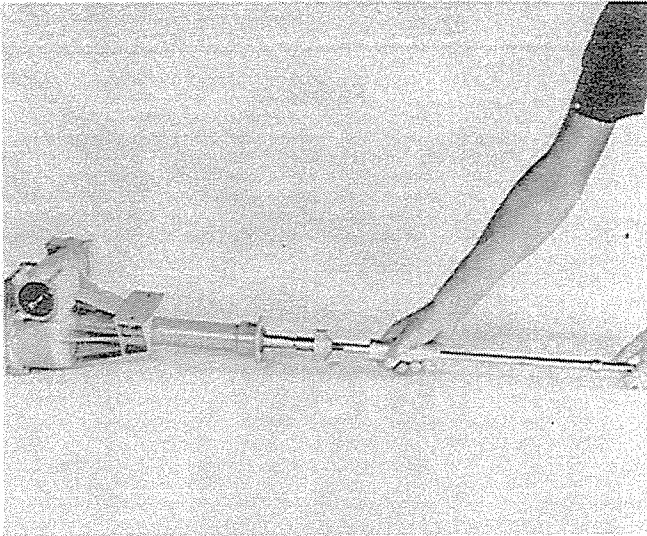

Figure 1
2. Remove both axle shafts. A slide-hammer puller, Figure 1, may be needed.